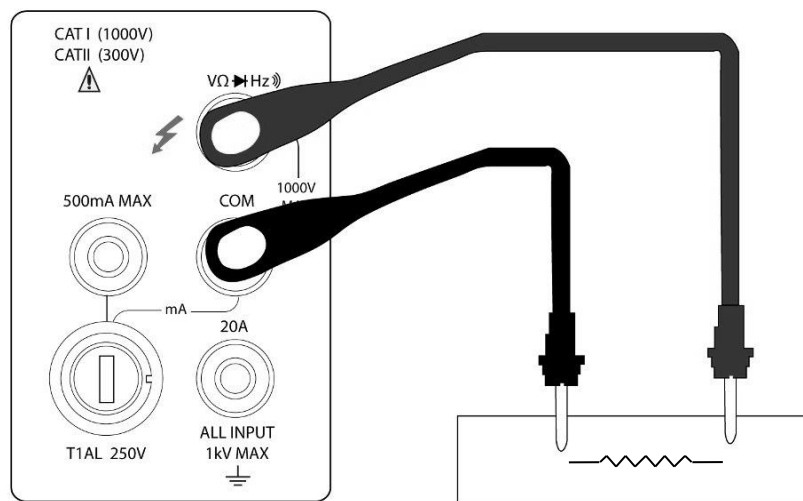

Figure 3-5 Continuity Measurement
3. Connect test leads to the resistance under test as shown in Figure 3-5.